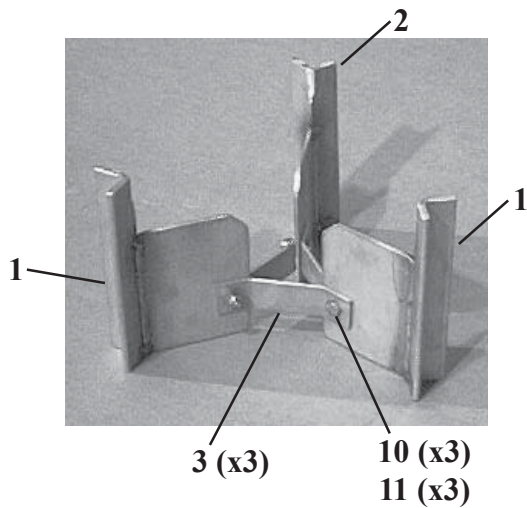

Figure 6
### A. Flow Straightener Assembly - See Figure 6
1. Assembly the Flow Straightener Assembly on a flat surface as seen in Figure 6. Tighten the hardware.